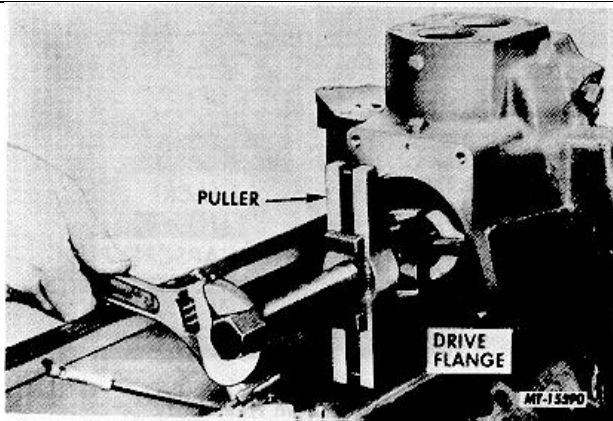

Fig. 58 Removing Injection Pump Drive Flange
51. Remove injection pump drive flange nut. Using puller SE-1368 and fingers, remove injection pump drive flange, retainer and grip springs (Fig. 58).